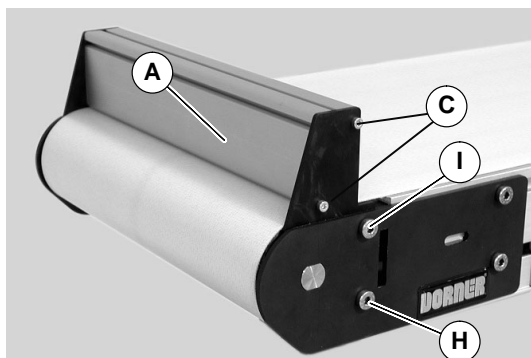

Figure 7
- Place end stop cross piece (A of Figure 7) on end of conveyor and attach with screws (C) tighten to 50 in-lbs (5.6 N-m).
- Tighten screws (H and I of Figure 7) to 146 in-lbs (16.5 N-m).